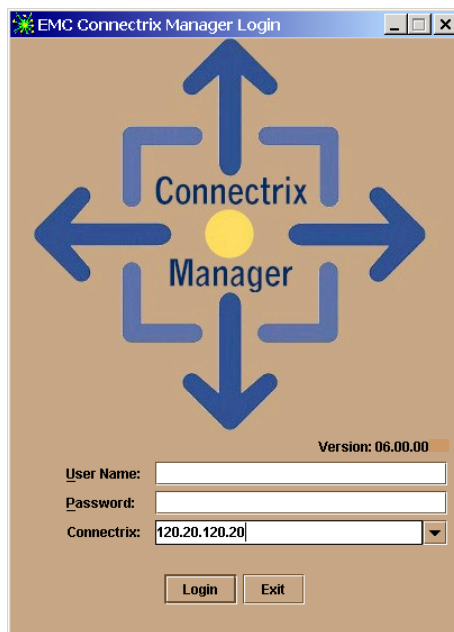

Figure 2-1 Connectrix Manager Login Window
If you *are* logged in to another Connectrix service processor, move the cursor over the **Logout/Exit** icon and click **Logout** on the pop-up menu. This logs you out and displays the Login window (Figure 2-1).
2. Enter your user name and password (both are case-sensitive) into the appropriate fields of the Connectrix Manager Login window (Figure 2-1).